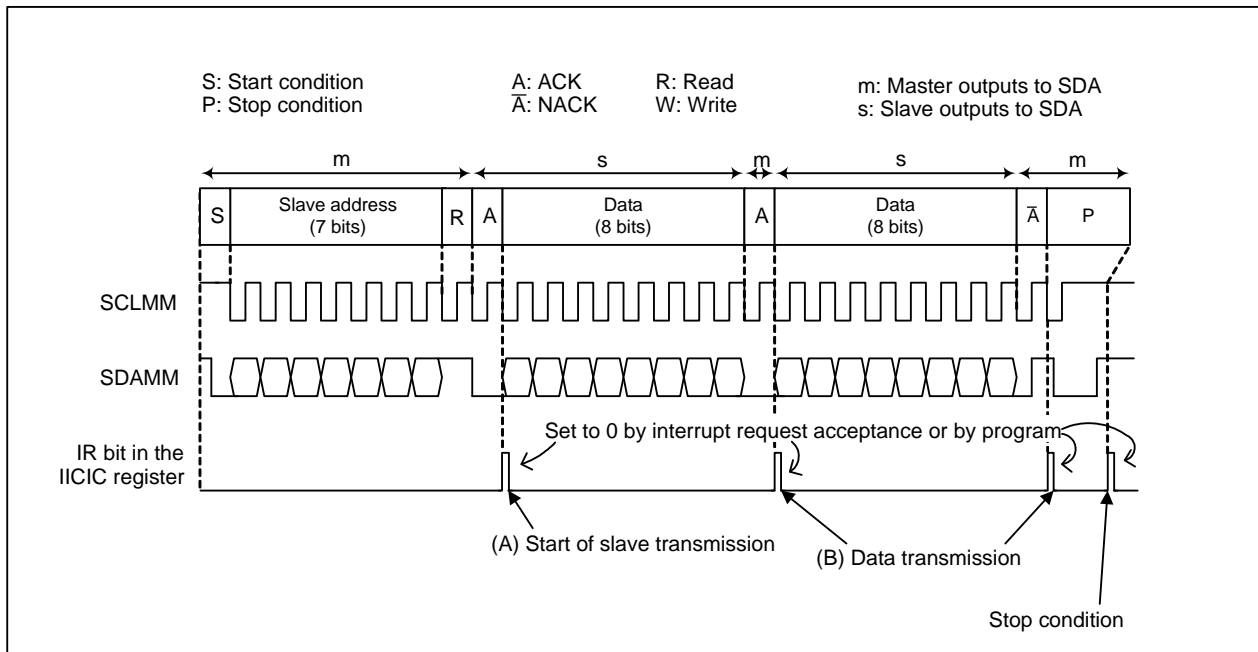

Figure 25.20 Example of Slave Transmission
Slave transmission is described in this section. The initial settings described in 25.3.10.1 "Initial Settings" are assumed to be completed. Figure 25.20 shows the example of slave transmission. The following programs (A) to (B) are executed at (A) and (B) in Figure 25.20, respectively.